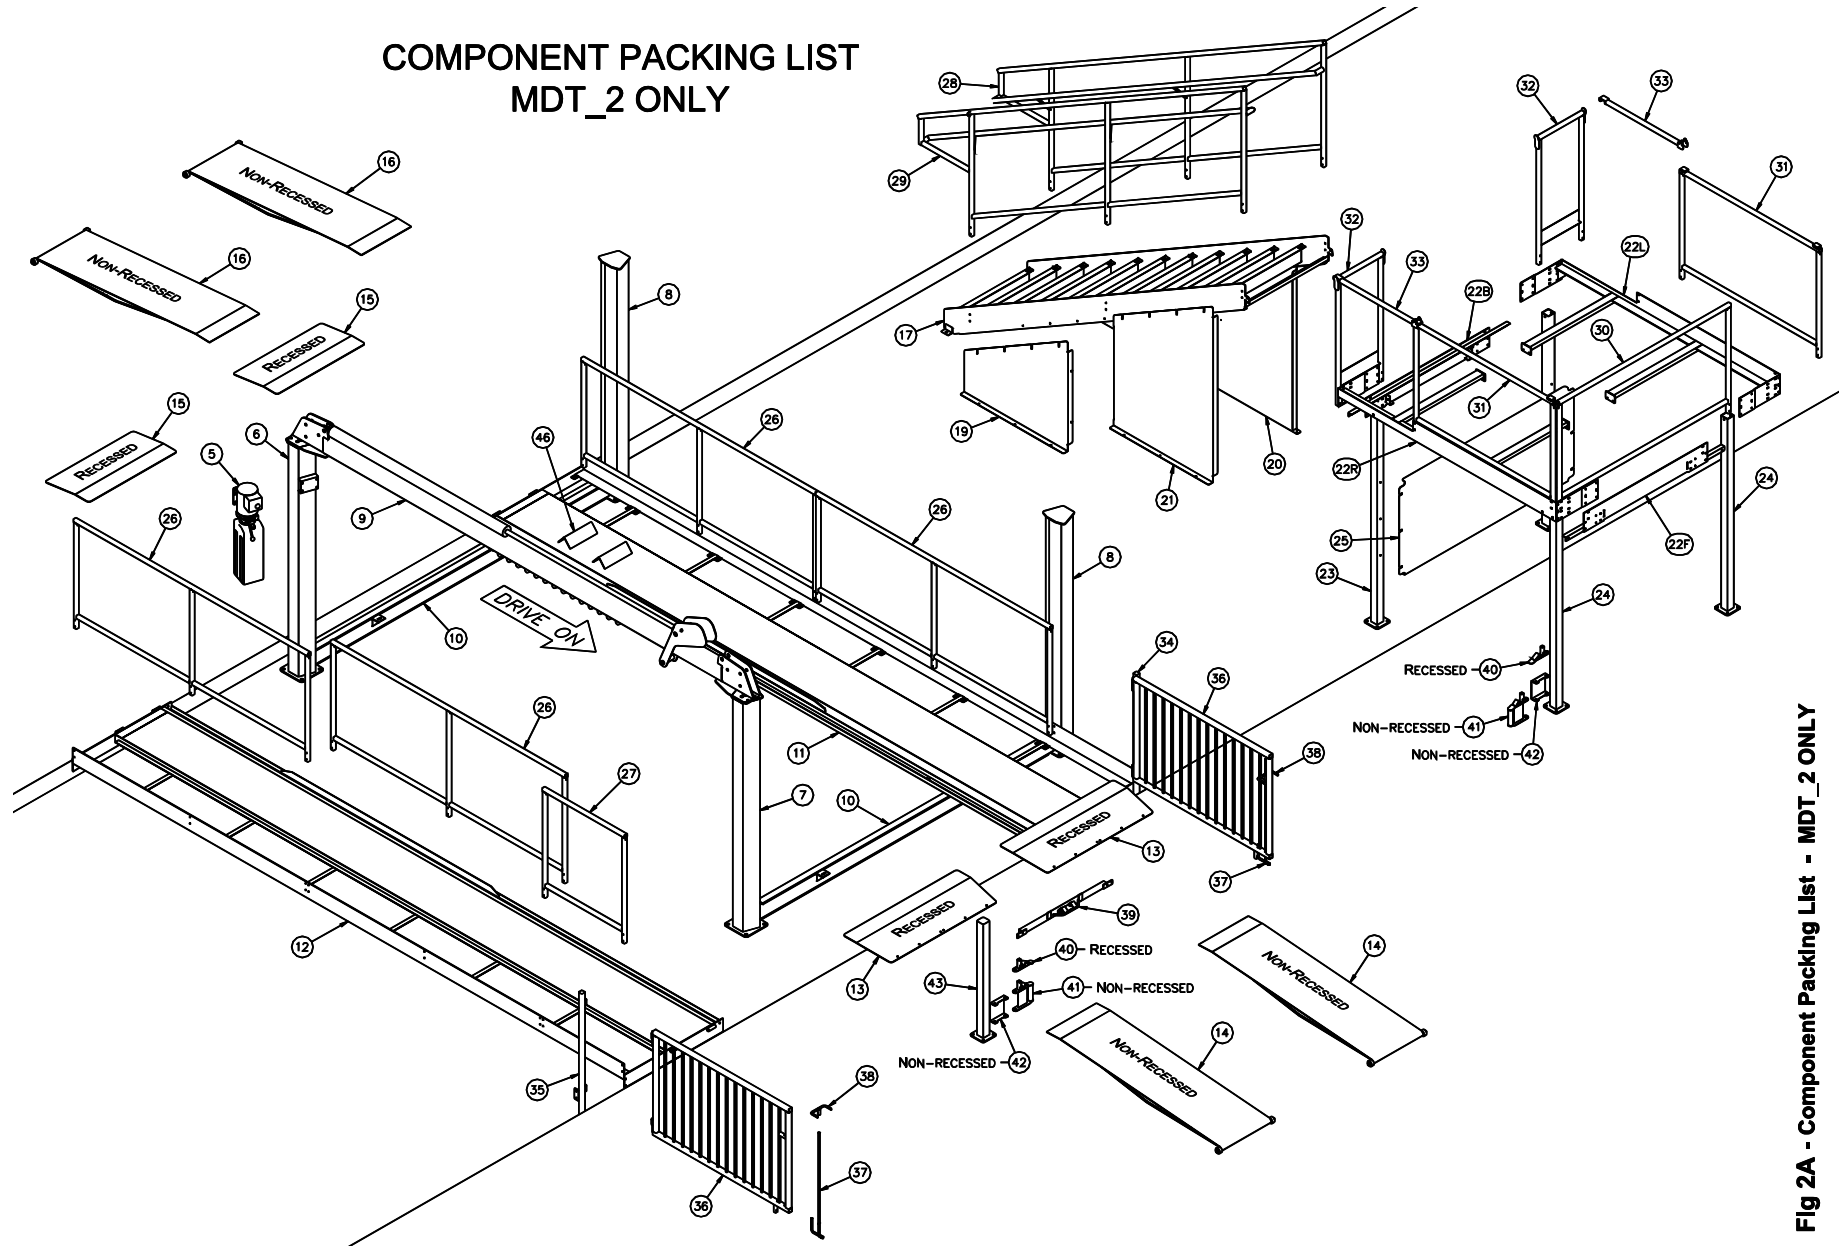

Fig 2A - Component Packing List - MDT_2 ONLY
- MDTR2 installation see **Table 2A and Fig 2A**